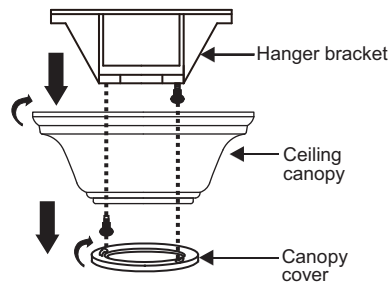

Fig. 5
Step 1. Remove the decorative canopy bottom cover from the canopy by turning the cover counter clockwise. (Fig. 5)
Step 2. Remove the ceiling mounting bracket from the canopy by removing (and save one of the two screws. Loosen the remaining screw by a half turn. (Fig. 5)